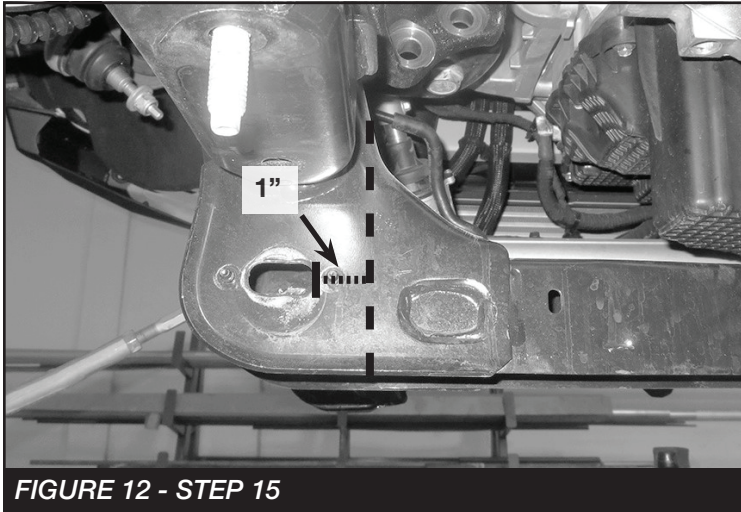

FIGURE 12 - STEP 15
15. Locate the rear factory crossmember. Starting on the driver rear side. From the control arm mounting hole, measure 1" inward and mark a vertical line. **SEE FIGURE 12**